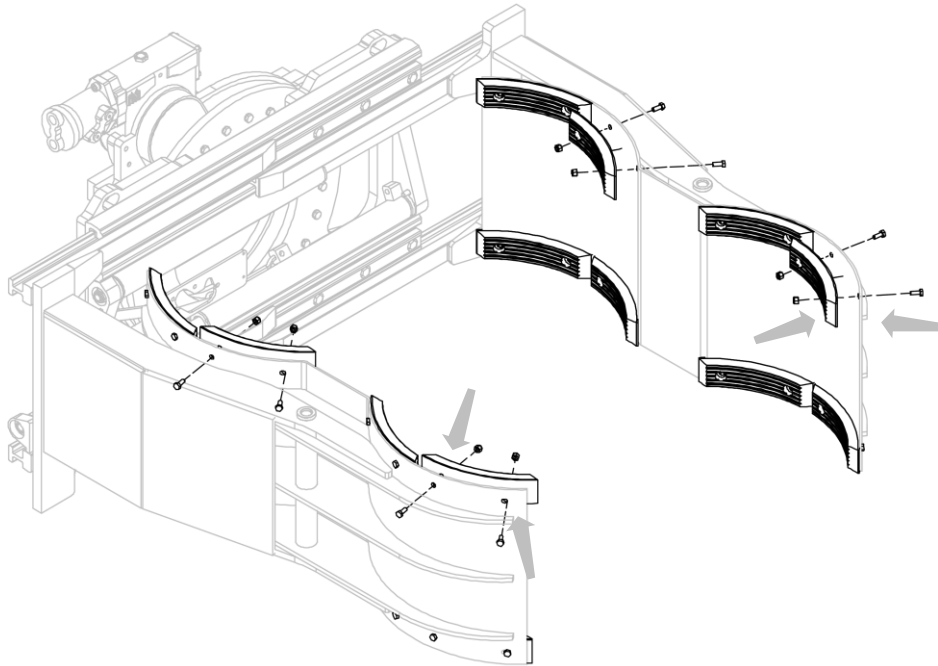
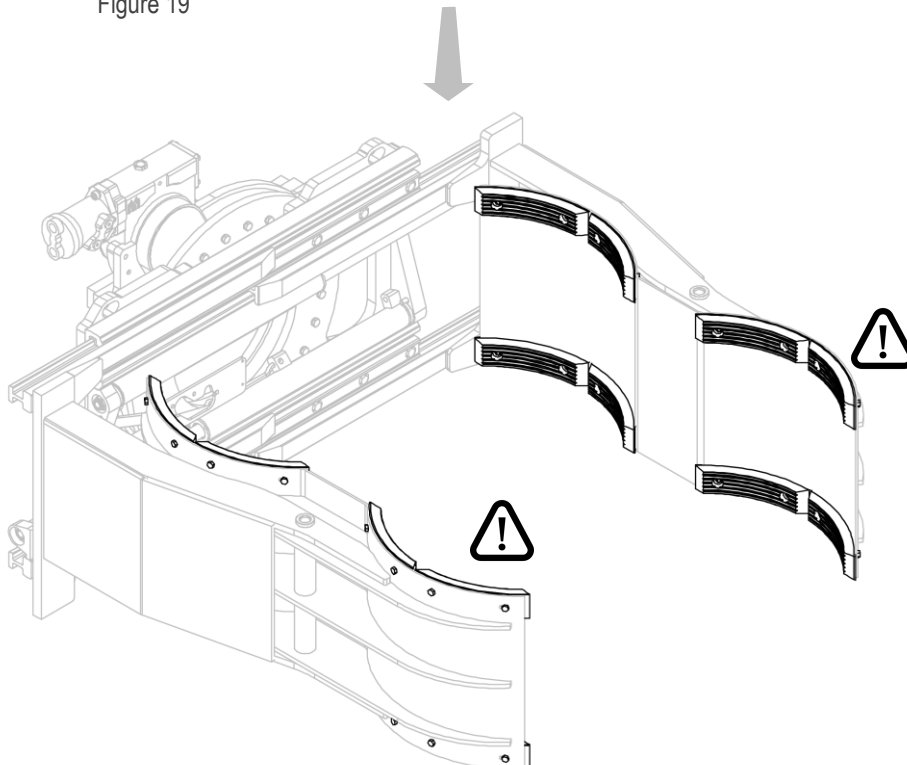

Figure 19
Figure 20
3. Install the rubber pads, using the associated nuts and bolts (see *Figure 19* and *Figure 20*).